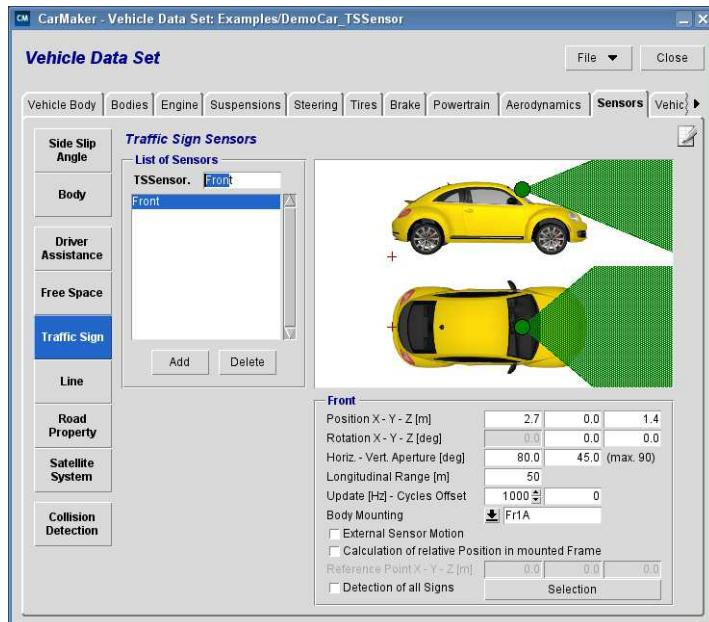

Figure 5.100: Traffic Sign Sensor parameterization
- TSSensor.** Here you can enter a name for the current sensor, to alleviate the identification of the sensor quantities, e.g. in IPGControl. All User Accessible Quantities of this sensor will start with the prefix *TSSensor.Name.\**. In the example in Figure 5.100, the UAQs of this sensor will start with *TSSensor.TS00.\**.